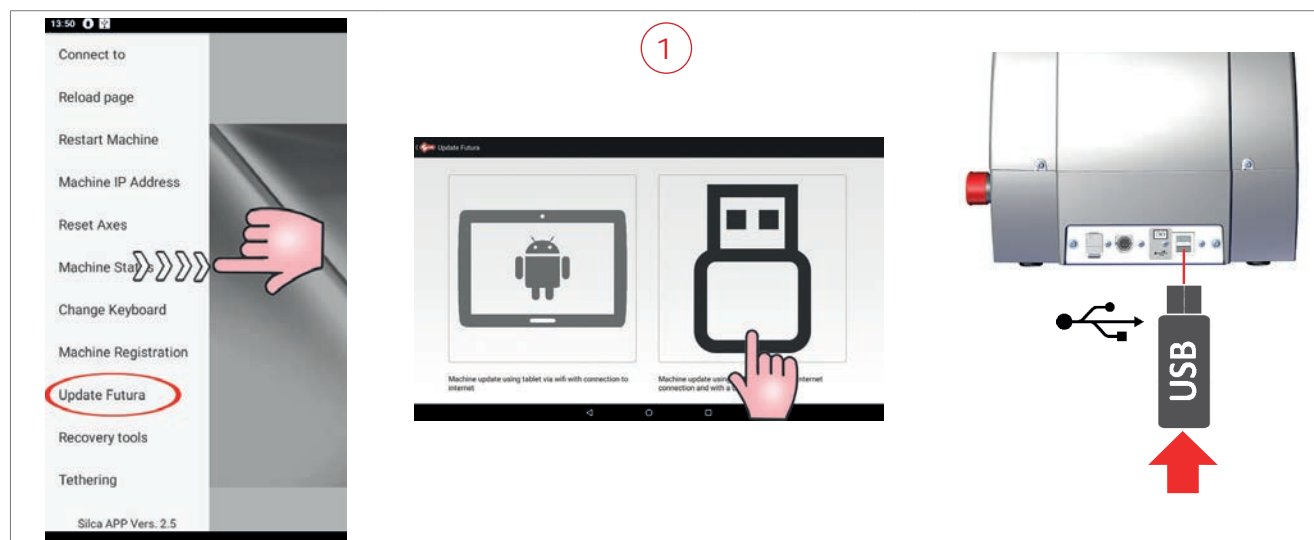

Fig. 12
- 1) Select “Update Futura” from the drop-down menu and tap the USB PEN image (Fig. 12). Insert the USB PEN DRIVE into the machine and follow the instructions on the screen.